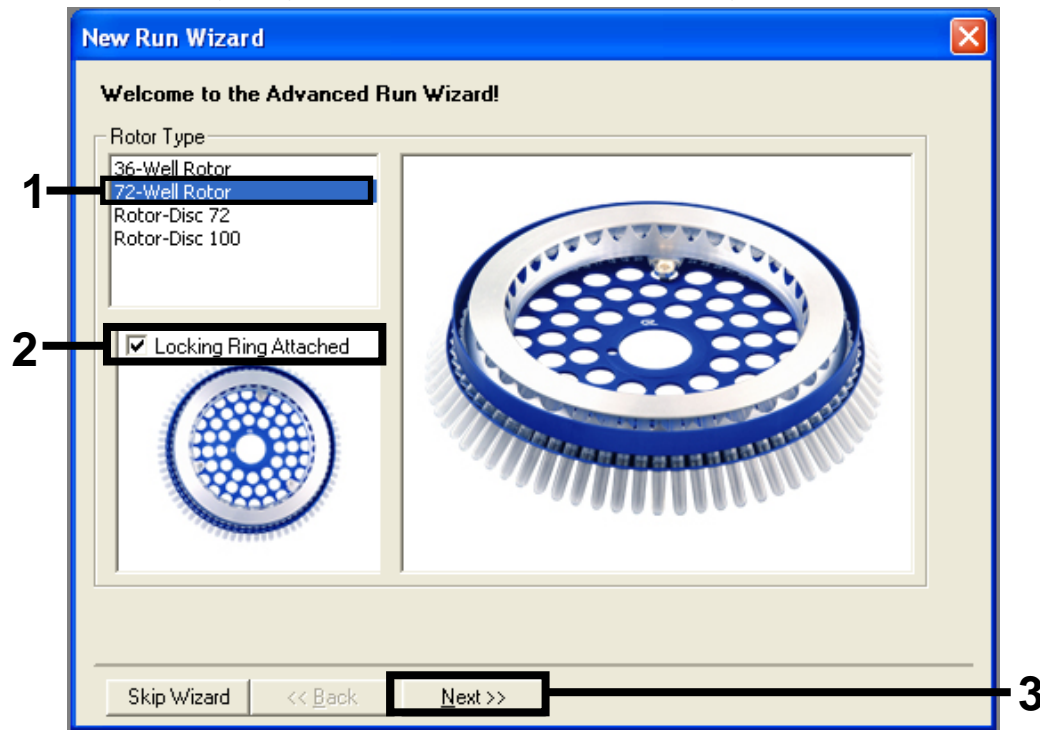

Figure 3. The "New Run Wizard" dialog box. 1 = 72-Well Rotor selection, 2 = Check box "Locking Ring Attached", 3 = "Next" button.
2. Ensure that the correct rotor is selected, and check the box to confirm that the locking ring is attached. Click "Next" (Figure 3).